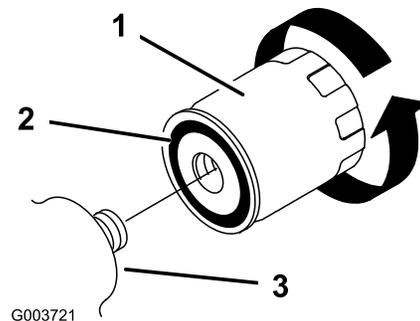

Figure 38
5. Remove the old filter (Figure 38) and wipe the surface of the filter adapter gasket clean.
6. Apply a thin coat hydraulic fluid to the rubber gasket on the replacement filter (Figure 38).
7. Install the replacement hydraulic filter onto the filter adapter (Figure 38). Tighten it clockwise until the rubber gasket contacts the filter adapter, then tighten the filter an additional 1/2 turn.